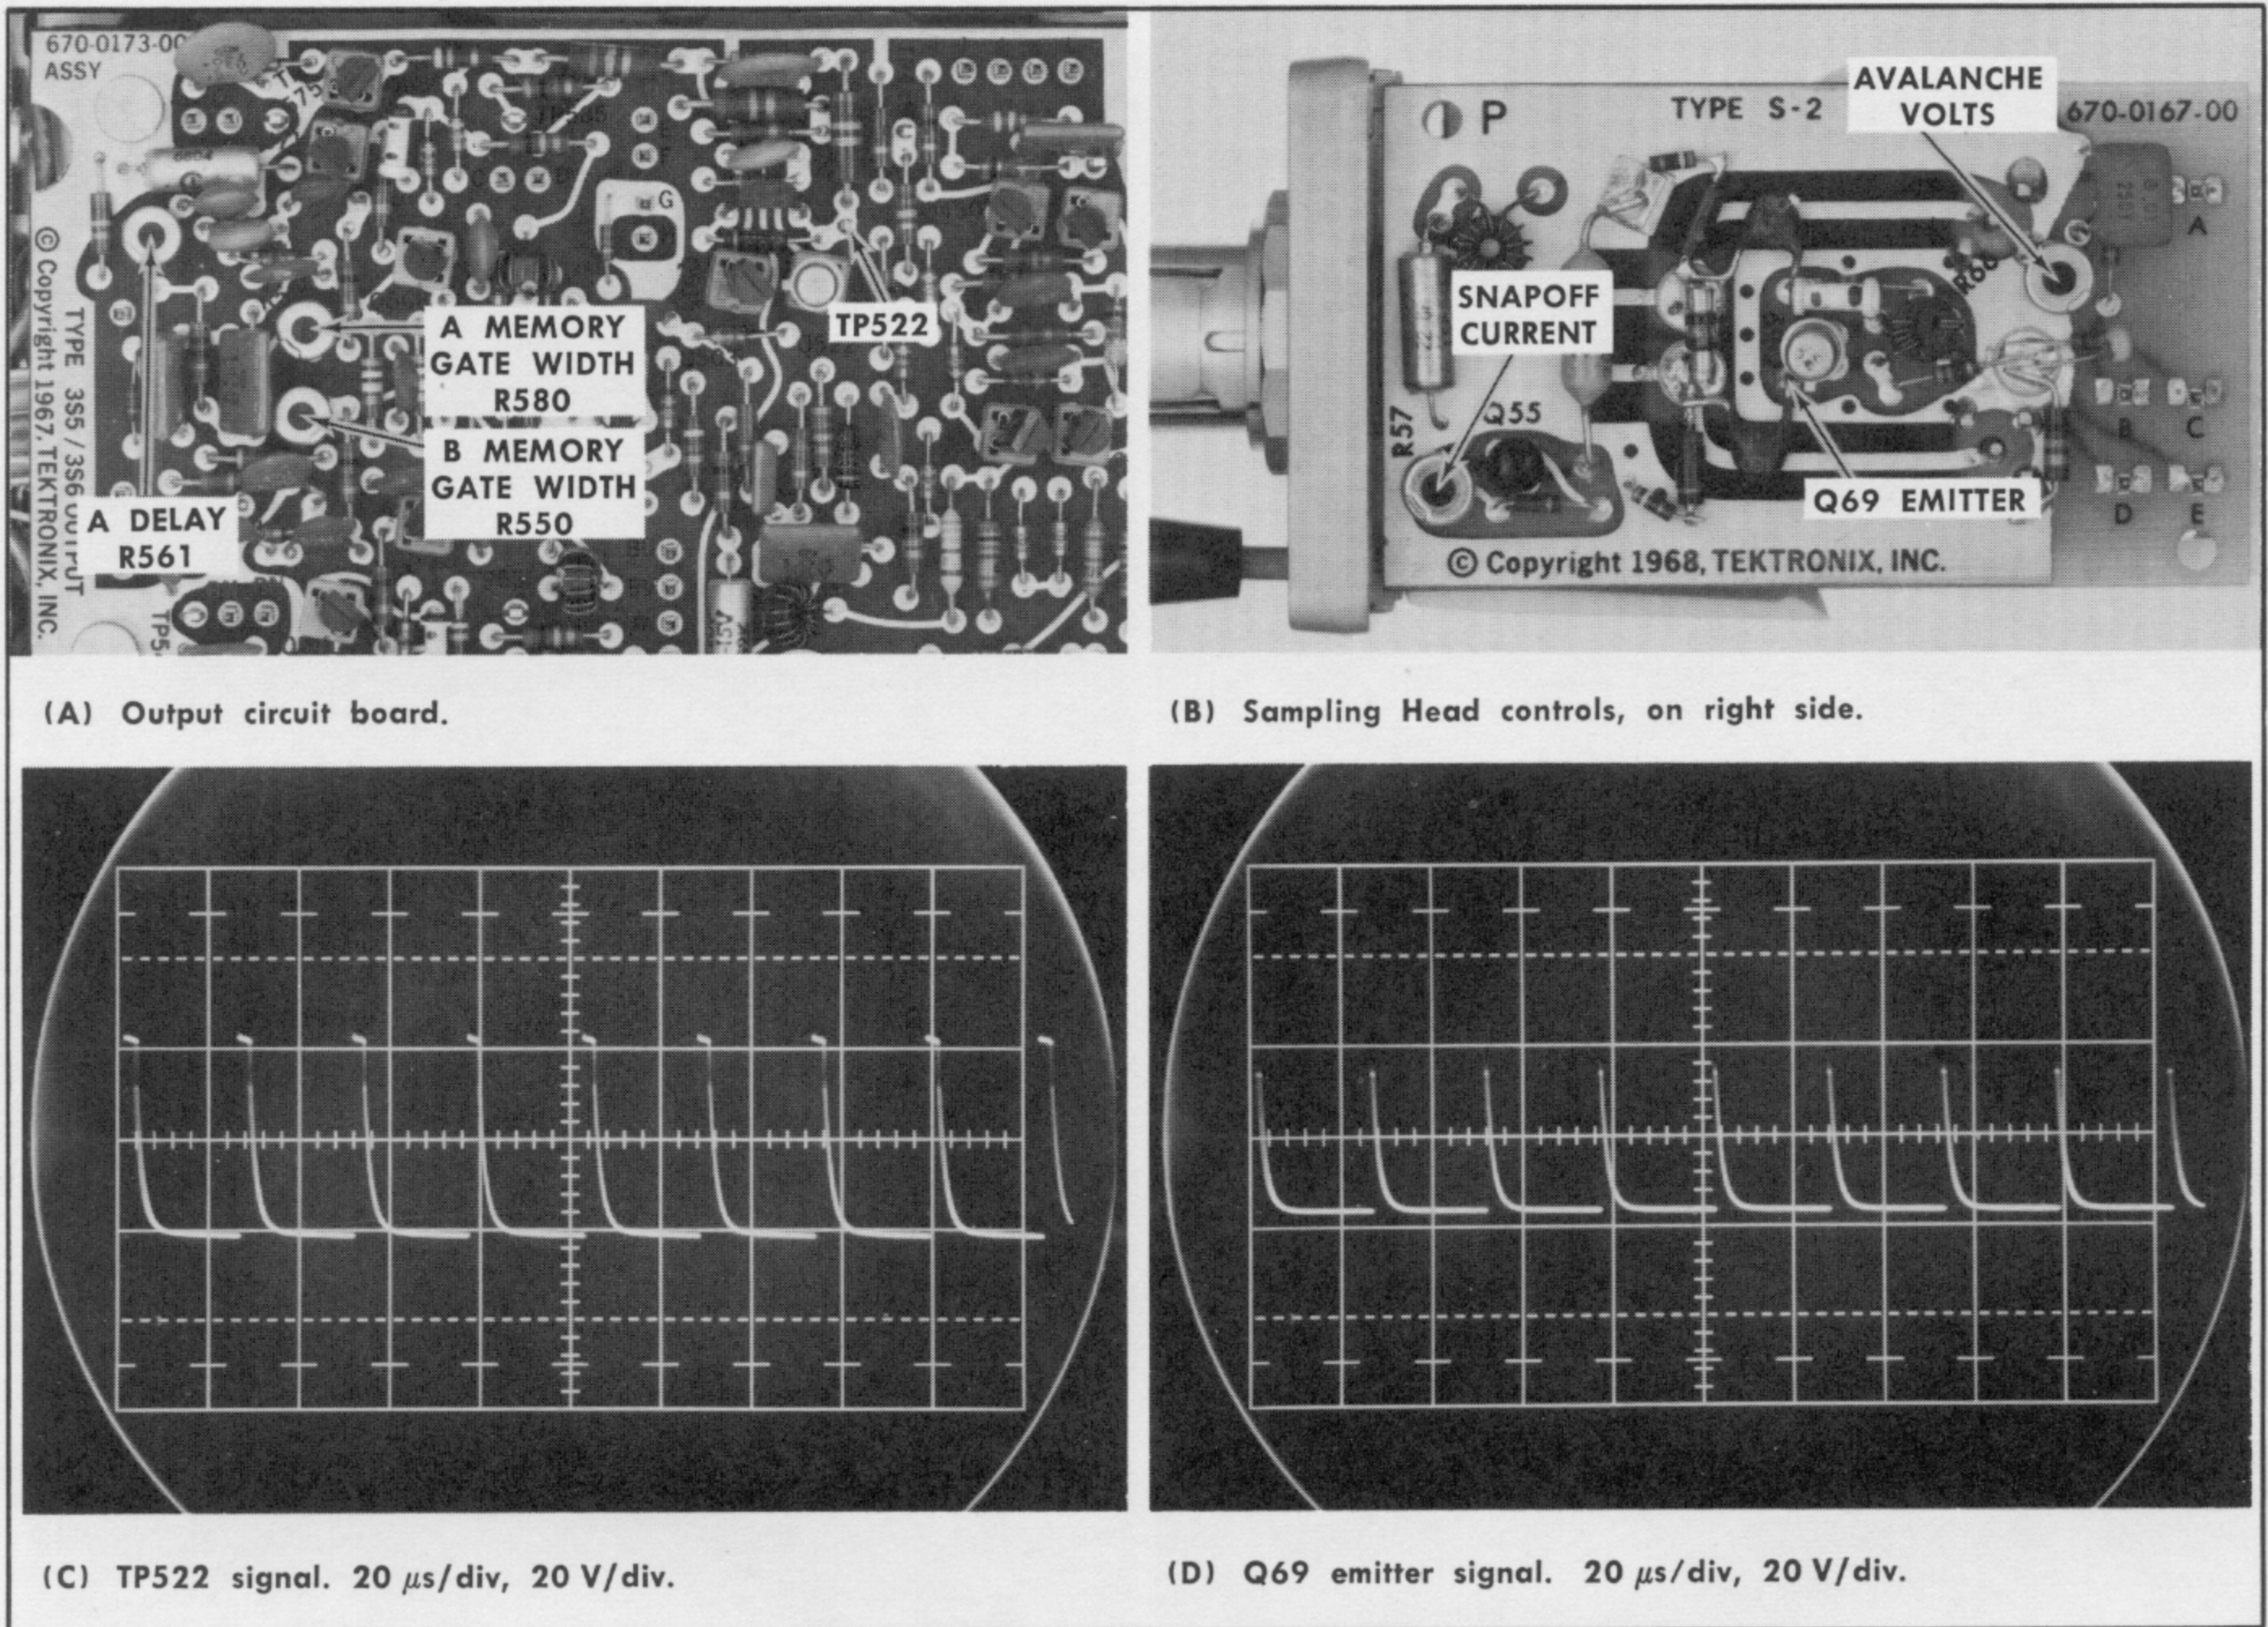

Fig. 7-4. Gate Generator and Sampling Head Avalanche operation.
f. Locate R580, the A MEMORY GATE WIDTH control (see Fig. 7-4) and adjust it for an indicator oscilloscope display of maximum loop gain. The test oscilloscope display is at maximum amplitude for maximum loop gain.
display. Locate R550, the B MEMORY GATE WIDTH control (see Fig. 7-4) and adjust it for maximum loop gain.